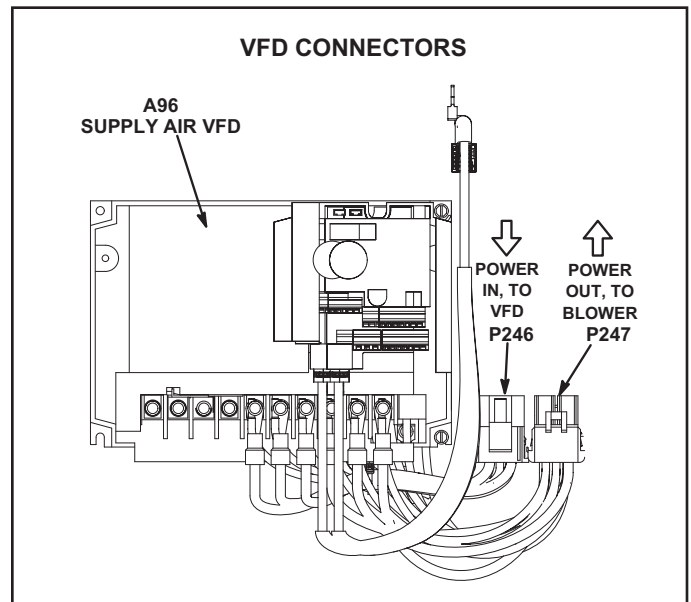

FIGURE 25
2. Locate P246 and P247 connectors near the VFD. See FIGURE 25.